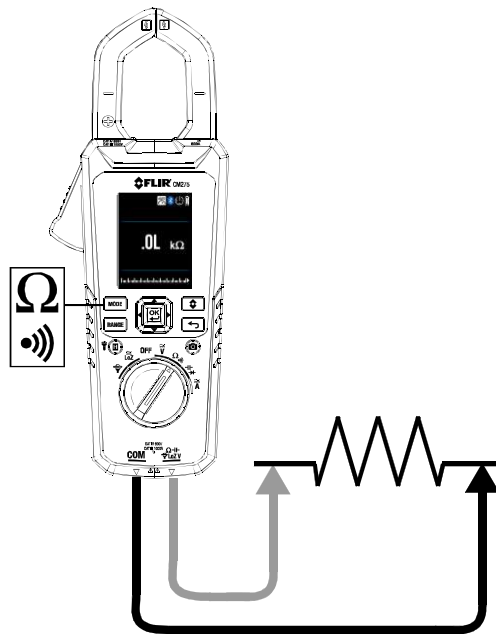

Fig. 9-5 Resistance and Continuity Measurements
1. Refer to **Fig. 9-5**. Set the function switch to the Ω \bullet) position.